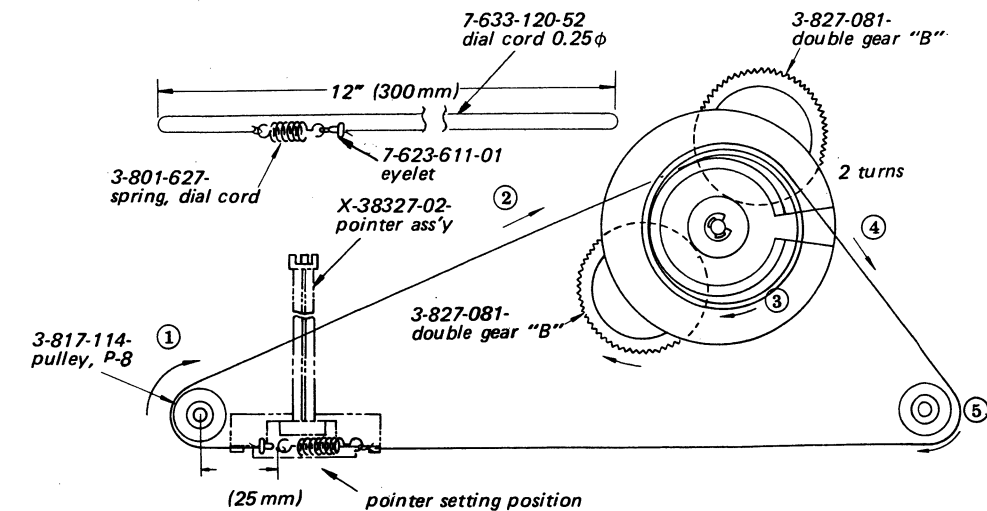

Fig. 2-23. Pointer driving cord stringing
- 1. Cut a dial cord as shown in Fig. 2-23.
- 3. String the pointer driving cord in numerical order, setting the spring to the position shown in Fig. 2-23.